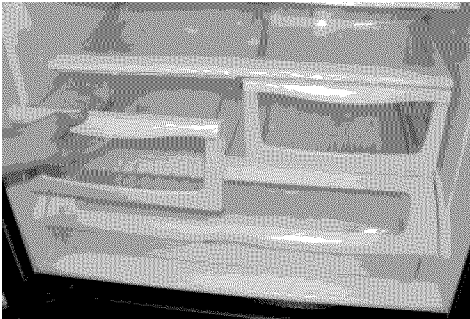
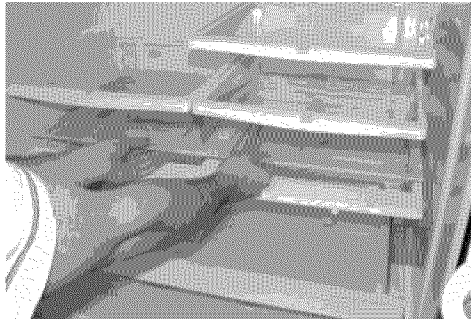
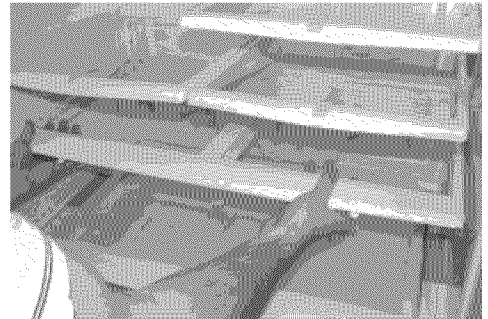

Figure 1
Figure 2
Figure 3
2. Remove crisper drawers (Figure 1), crisper glass top (Figure 2) and crisper frame (Figure 3).